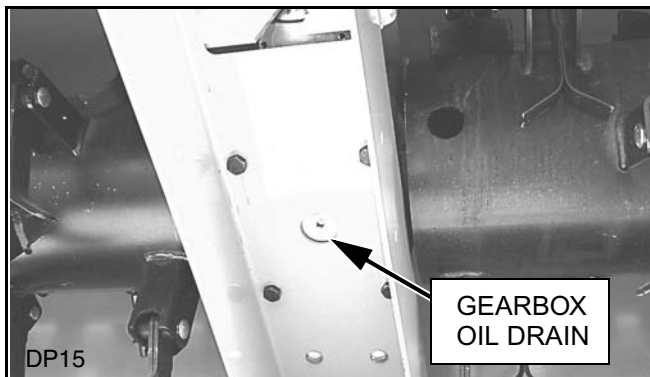

Figure 25. Gearbox Oil Drain Location
1. Change gearbox oil. Refill with SAE 85W90 gear oil. Capacity: 2-1/2 U.S. quarts (110 oz.). See Figure 25.